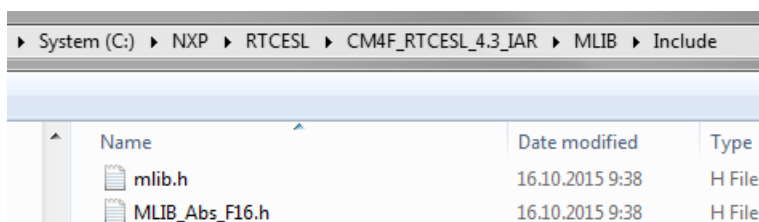

Figure 1-39. Add Files dialog
5. Navigate into the library installation folder C:\NXP\RTCESL\CM4F_RTCESL_4.5_IAR\MLIB\Include, and select the *mlib_FP.h* file. (If the file does not appear, set the file-type filter to Source Files.) Click Open. See Figure 1-39.